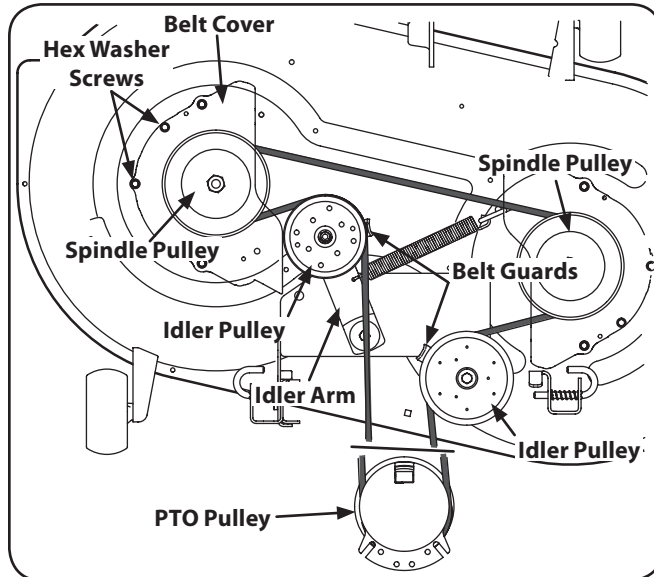

Figure 7-8
2. Remove the hex washer screws securing the belt covers to the deck. See Figure 7-8.
5. Install the new belt around the spindle pulleys as shown and reinstall the belt covers. See Figure 7-8.
7. Route the belt as shown in Figure 7-8 and then reinstall the deck (refer to Deck Installation on page 29).